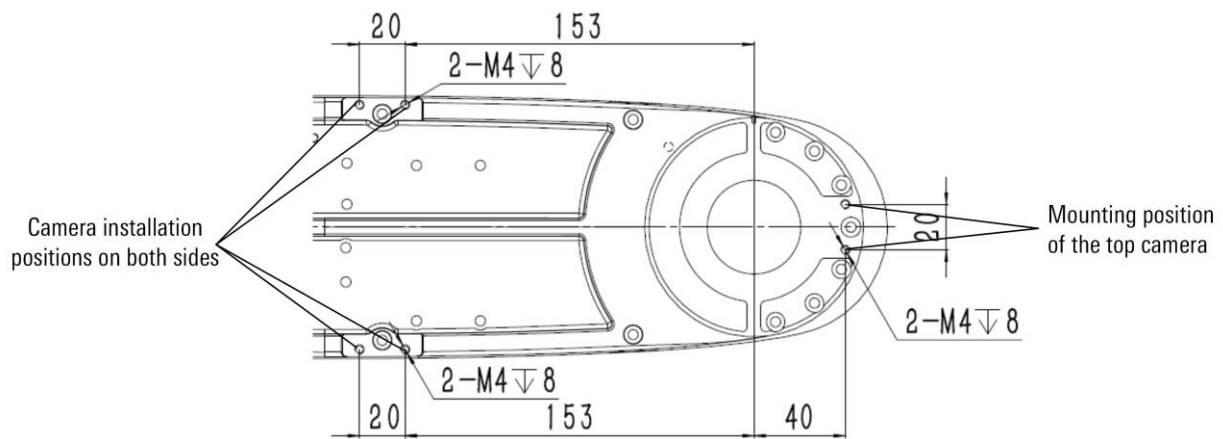

Figure 5-10 Schematic diagram of the camera installation position of the AIR6SC-600A arm
When installed on both sides of the forearm (shown in Figure 5-10)  $WM = M (L1)^2 / (L1 + L2)^2$
When installed at the top of the forearm (shown in Figure 5-10):  $WM = M (LM)^2 / (L2)^2$
LM:The distance from the center of rotation of the J2 axis (shown in Figure 5-10) to the center of gravity of the camera, etc.
The manipulator has a camera mounting position on the forearm, and the mounting hole specifications and dimensions are shown in Figure 5-10.